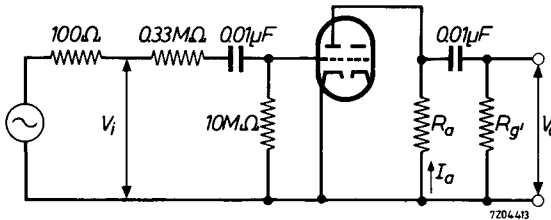

Fig. 3
A.F. amplifier - circuit fig.3.
OPERATING CHARACTERISTICS (continued)A.F. amplifier - circuit fig.3. (continued)